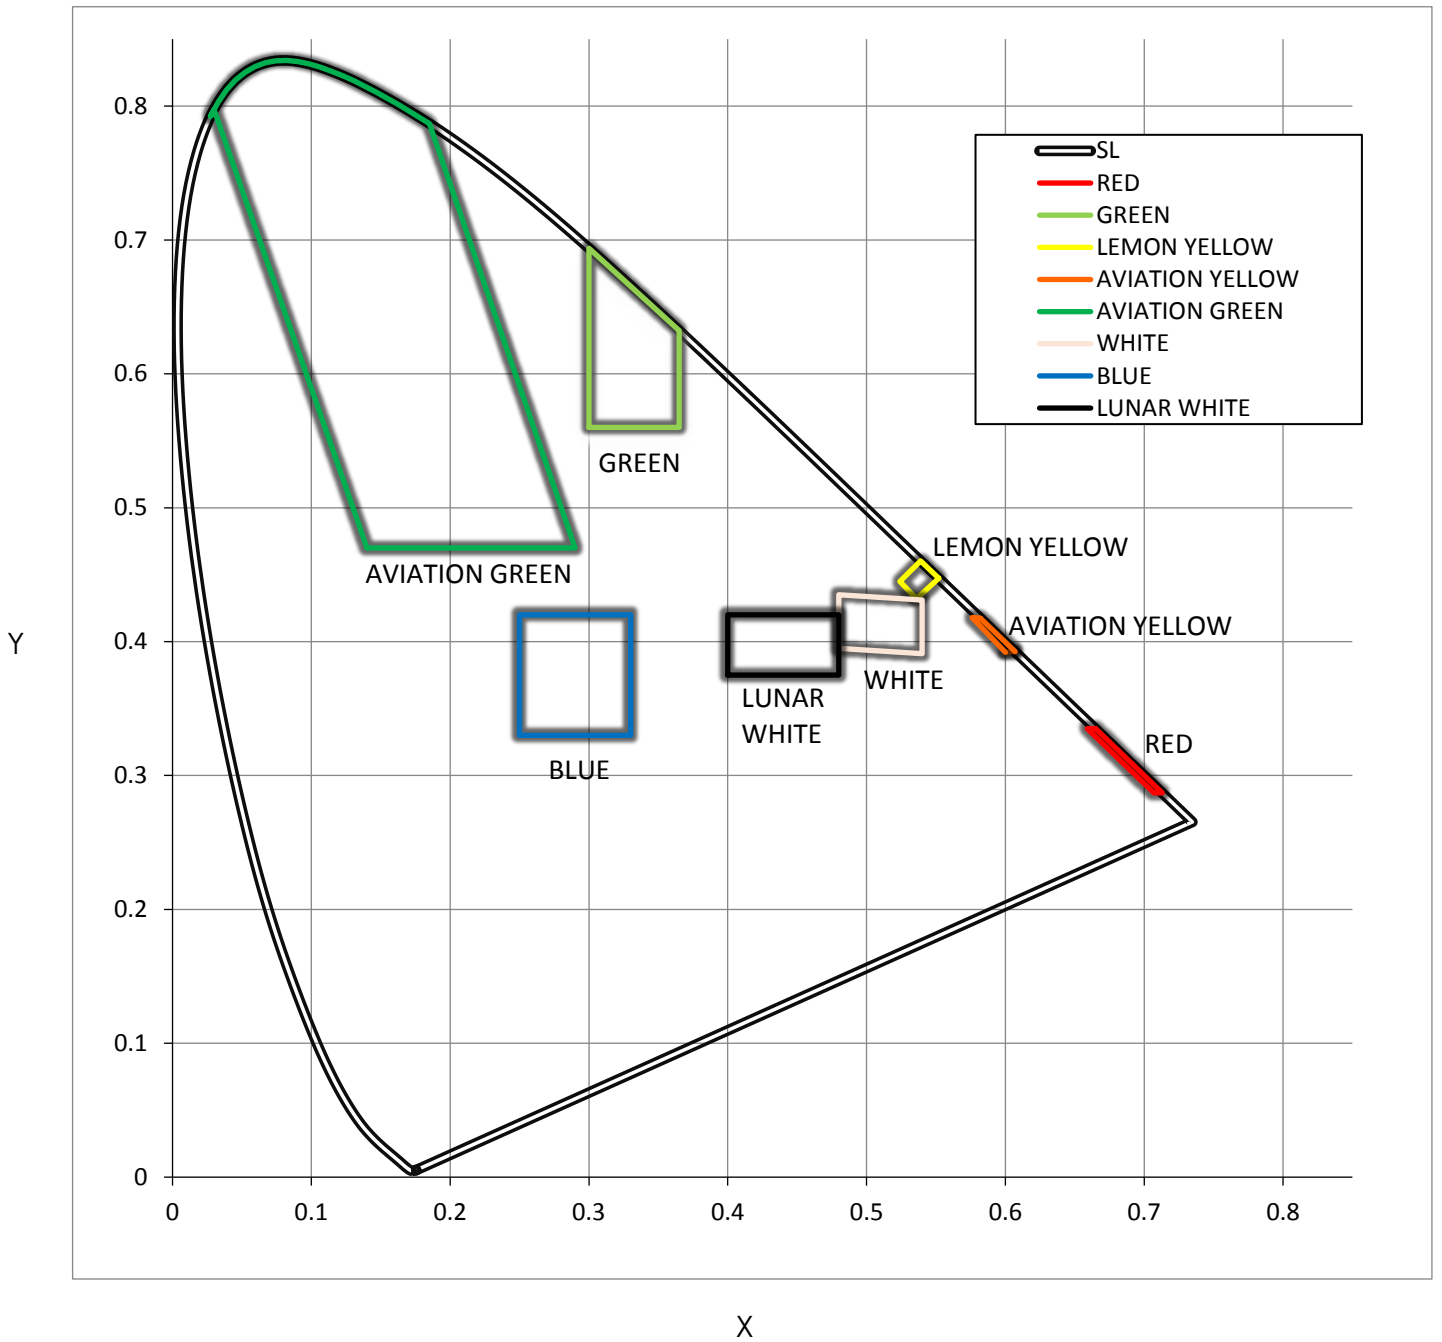

Figure 44: Incandescent Color – CIE 1931 Chromaticity Diagram
- "Color, Series 90 Code" specifies colors. Also see Table XXIX: Color Limits for tabulation of Illuminated Color Limits, CIE Charts of Figure 44: Incandescent Color – CIE 1931 Chromaticity Diagram and Figure 46: High Brightness LED Colors – CIE 1931 Chromaticity Diagram, and Table XXXV: Model 92 Incandescent Pushbutton Configuration Table.
3. Color, Series 90 Code, see Figure 44: Incandescent Color – CIE 1931 Chromaticity Diagram and Figure 46: High Brightness LED Colors – CIE 1931 Chromaticity Diagram.
The illuminated colors of displays shall be built in accordance with MIL-PRF-22885 for incandescent configurations, Multi-chip LED configurations, and for Multi-chip LED configurations, per MIL-L-85762, and MIL-STD-3009 for all NVIS-compatible configurations. Figure 44: Incandescent Color – CIE 1931 Chromaticity Diagram shows the standard colors for incandescent versions of the Series 90 plotted on the CIE 1931 Chromaticity Diagram.